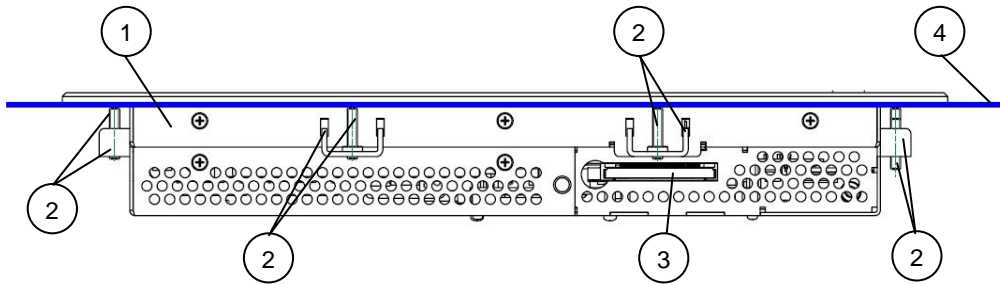
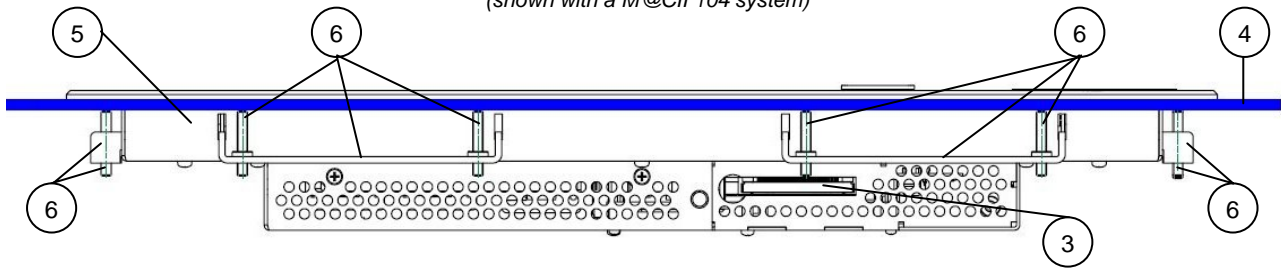

Fig. 39: Detail with mounting clamps and a subframe (shown with a M@CII 104 system)
Fig. 40: Detail with mounting clamps and a subframe (shown with a M@CII 150 system)
The system configurations come in the delivering status with mounting clamps and Allen Screws in order to mount the system to a subframe or panel (refer to pos. 2, Fig. 39 or pos. 6, Fig. 40, depending on the system ordered).
Legend for Fig. 39 and Fig. 40: